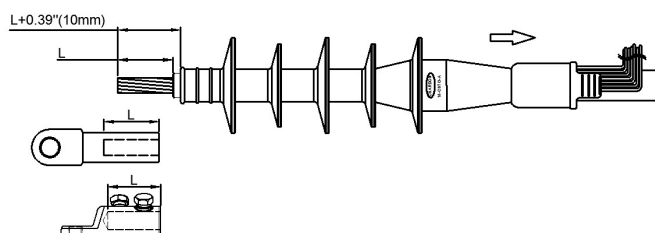

Fig.11
- Remove the insulation to expose the bare conductor according to lug depth " L " as shown in Fig.11.